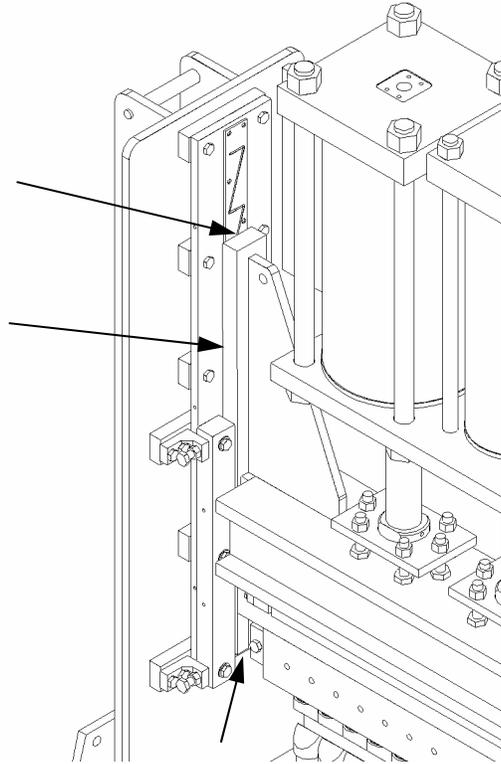

FIGURE 3 – use a feeler gauge to check tightness of the end guides
4. There shouldn't be any space between the end guides and the top jaw. To test this, use a 0.020" feeler gauge to fit between the top jaw and the guides. It shouldn't be able to fit between the guides and the brass. Try it in several spots when the top jaw is lowered all of the way down. Note figure 3.